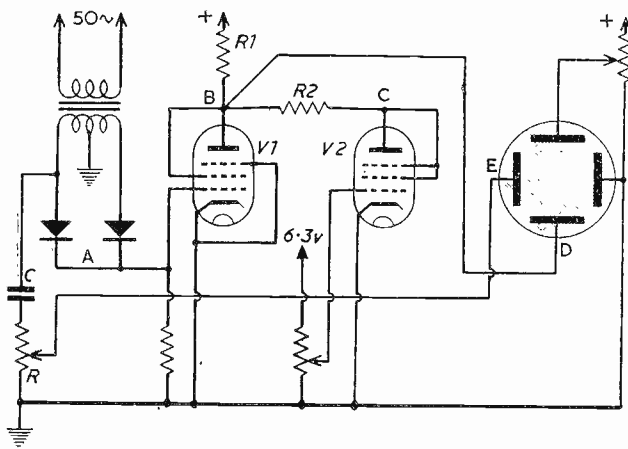
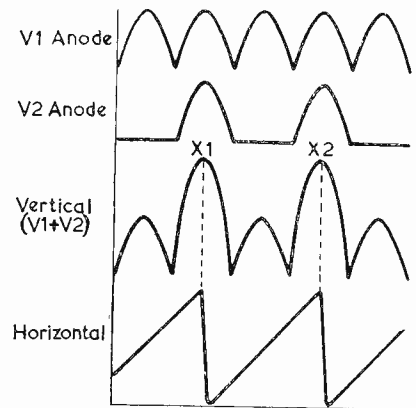

Fig. 2 (left). Basic "A," "U," "V," "M," and "W" generator, see also Fig. 4
Fig. 4 (above). Formation of letter "W" and "M"
Fig. 4. In this "crossed planes" display an echo is represented by its projections on to two orthogonal planes. An echo on the axis of the volume thus appears as a symmetrical cross, while an echo off the axis appears as two bright bars. In the photograph, a range-marker (large cross) is shown in coincidence with an axial echo.
"A" received attention first as it presented little difficulty in developing the necessary deflection potentials (Fig. 2). Positive going full-wave rectified 50 c/s. pulses (A) are applied to the grid of V_1 producing a "V"-shaped voltage across the anode load, R_1 , i.e., the inverse of the anode current pulses shown at B. Half-wave positive-going 50 c/s. pulses are applied to the grid of V_2 producing anode current pulses as shown at C. (Later the rectifier was omitted and the grid taken straight to 50 c/s. which provided the same effect.) As R_1 , of V_1 , is high and common to both V_1 and V_2 , the increased current causes both anode voltages to limit for a major portion of the time during the period when both valves are conducting, D; the voltage (lower wave form of D) from the junction of R_1 and R_2 being negative going and similar in shape to the current pulses, provides the vertical deflection for the C.R. tube. The horizontal deflection is 50 c/s. phased through C.R. so that the + and - crests, E, occur when either or both V_1 and V_2 grids are at zero potential.
With the operation as discussed for the letter "A," but with the screen of V_1 disconnected from the anode, Fig. 2, and maintained positive through a separate resistance, V_1 then operates as a pentode and takes less plate current through R_1 so that when both V_1 and V_2 are conducting, the anode voltage never limits (Fig. 4). Both valves take approximately the same amount of plate current each time the grids go positive, with the result that on every other half-wave peak the voltage across R_1 is twice that when
V_1 only is conducting. A gas-triode is used to provide a linear 50 c/s. sweep and the sync. pulse is phased to produce the commencement of the scan at the moments marked X_1 , X_2 , X_3 , etc., in Fig. 4.